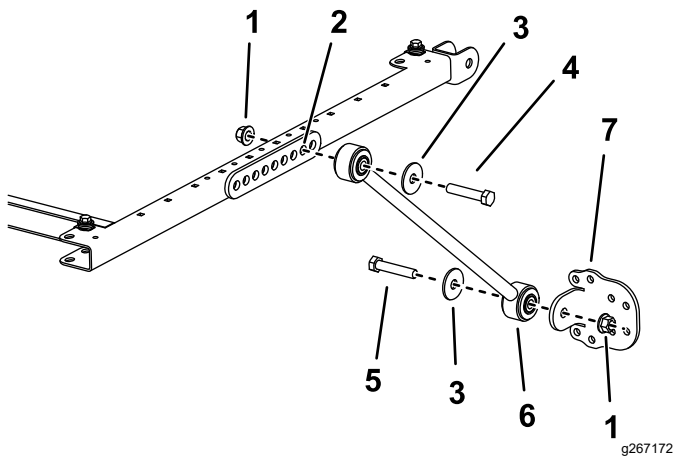

Figure 5
5. On each side of the sunshade frame, loosely mount a brace to the second hole of the brace mount with a bolt (1/2 x 2-3/4 inches), washer (1/2 inch), and flange nut (1/2 inch) as shown in Figure 5.
6. Loosely install a brace bracket to each brace with a bolt (1/2 x 2-1/2 inches), washer (1/2 inch), and flange nut (1/2 inch) as shown in Figure 5.